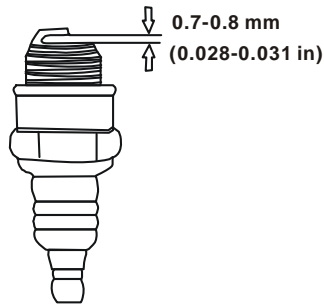

Figure 11- Measuring the spark plug gap
4. Measure the plug gap with a gauge (see figure 11). The gap should be 0.7-0.8mm (0.028-0.031in).